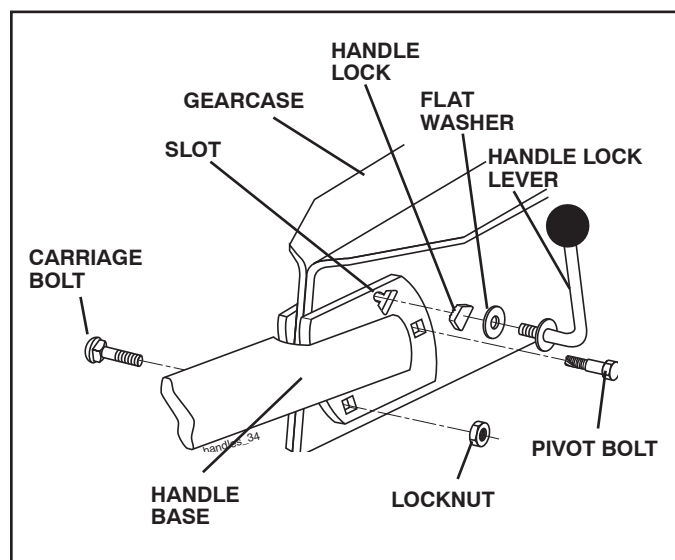

Fig. 5
- Rotate handle assembly down. Insert rear carriage bolt first, with bolt head on L.H. side of tiller and loosely assemble locknut (See Fig. 5).